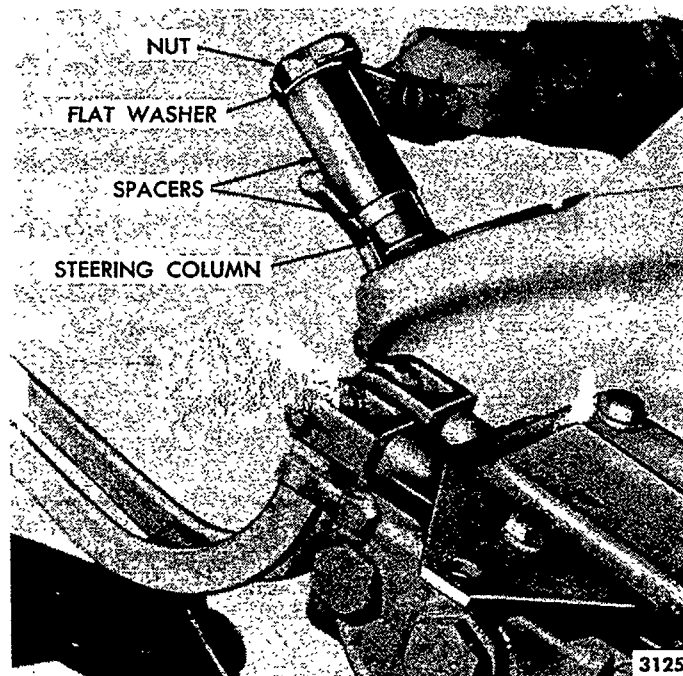

Figure 22—Drawing Shaft Spacer Into Housing
- c. Install a suitable spacer, flat washer, and nut at the top of the rod as shown in Figure 22, and draw the shaft spacer into the bore by tightening the nut on top of the rod. Remove the tool and make sure that the bottom face of the spacer is flush with its bore.